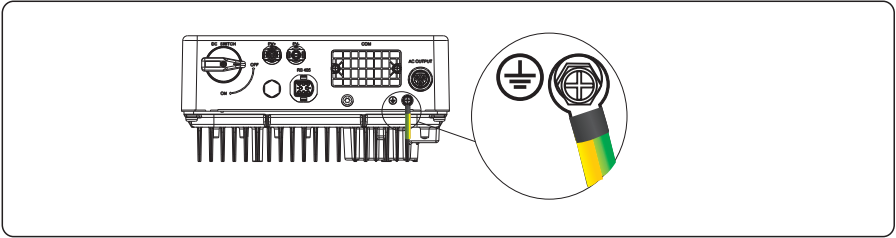

Figure 5.4 Secure the PGND cable
**Step 4** Secure the PGND cable (done by step 1 & 2) using the ground screw and tighten the screw using a socket wrench (torque 1.2 N·m), as shown in Figure 5.4.